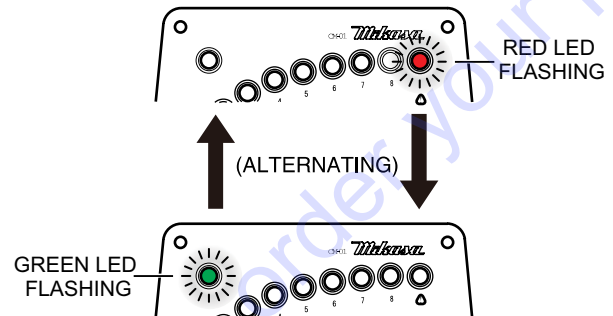

**Figure 25. Vibration Abnormality Improper Engine RPM's**
2. When appropriate vibration frequency cannot be achieved during operation due to improper engine RPMs (Figure 25) the green LED will flash. When this occurs check the engine RPMs and the V-belt tension as it could be loose.